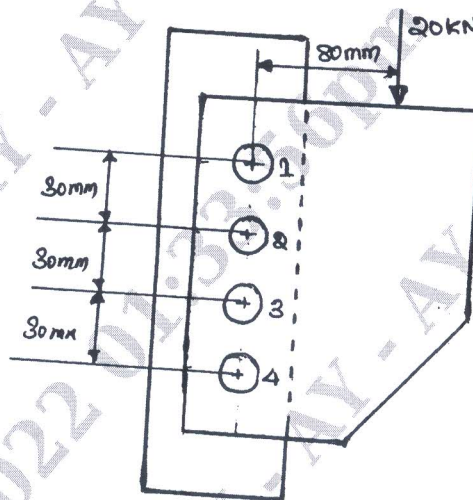

Fig Q7(b)
b. A bracket is supported by means of 4 rivets of same size as shown in Fig Q7(b). Determine the diameter of rivet if the maximum shear stress is  $140 \text{N/mm}^2$ .